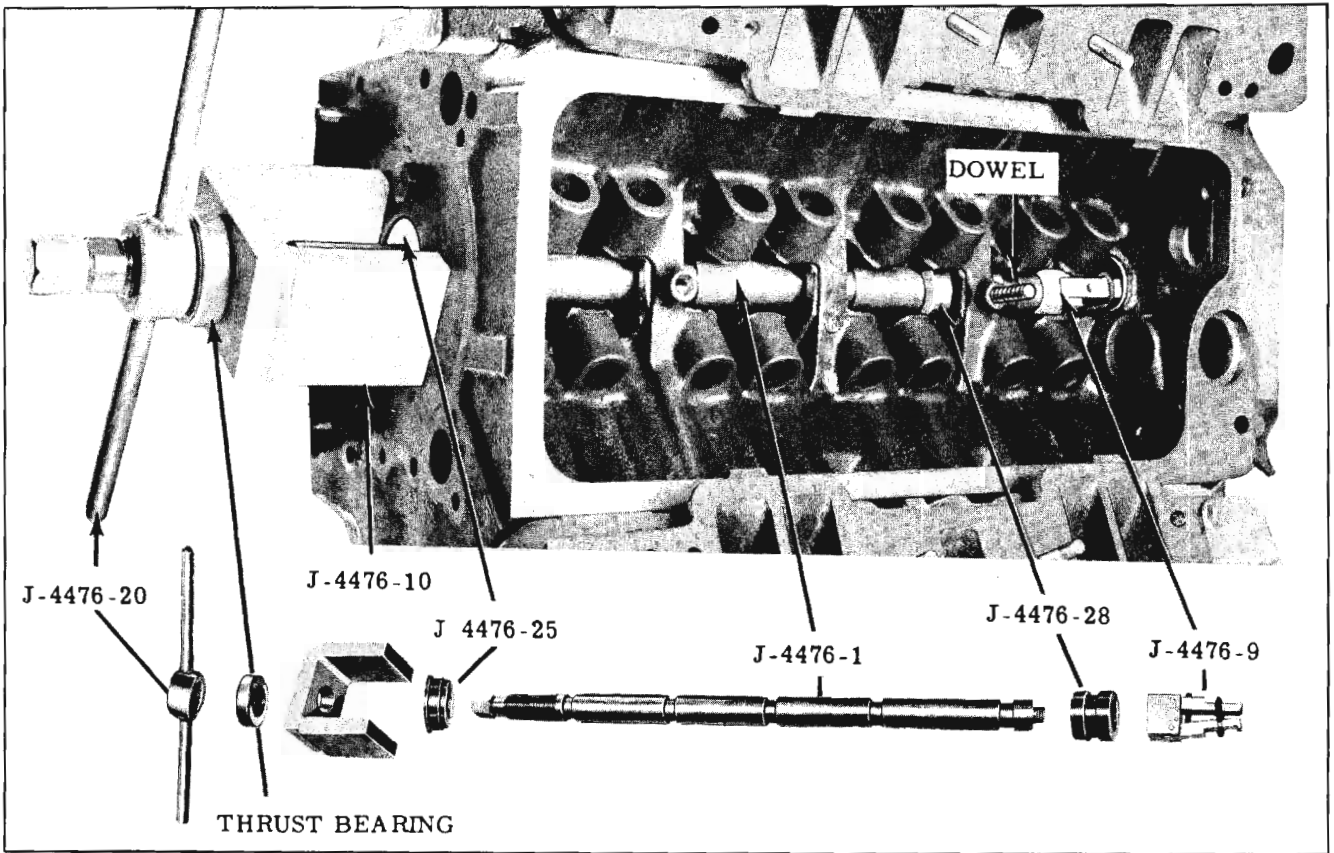

Fig. 8-41 Removing No. 5 Camshaft Bearing
- a. Assemble tools as shown in Fig. 8-41.